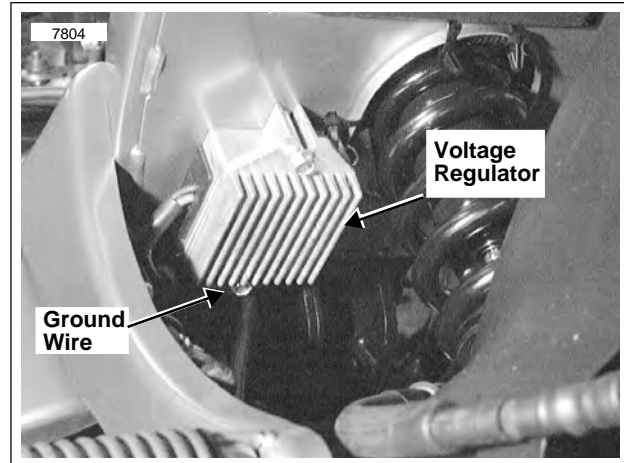

Figure 7-43. Voltage Regulator
See Figure 7-43. The voltage regulator is a series regulator with shunt control. The circuit combines the functions of rectifying and regulating.
See Figure 7-43. The voltage regulator base must have a clean, tight connection for proper grounding. The harness is grounded to the voltage regulator body. Check by using an ohmmeter with one lead on a known good ground, such as battery ground cable, and the other on the regulator base.
1. See Figure 7-43. To check for this condition, place load tester induction pickup or current probe pickup over battery negative cable.